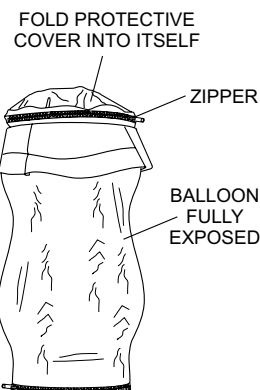

Figure 9. Folding Balloon Cover
7. Fold the balloon cover into itself and zip it up. See Figure 9.